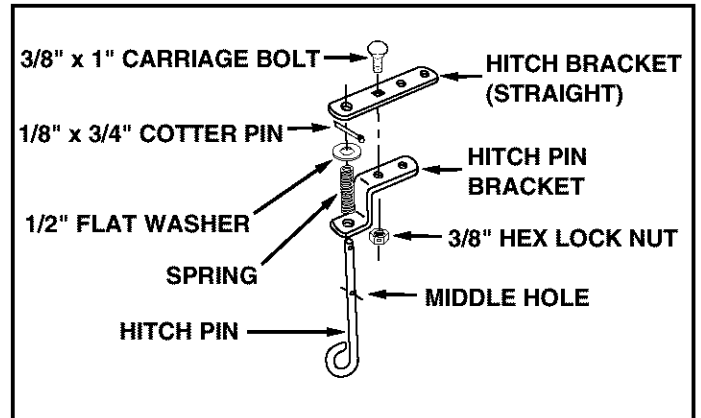

FIGURE 3
- Assemble the hitch pin bracket, the spring and the 1/2" flat washer onto the hitch pin. Secure them onto the hitch pin with a 1/8" x 3/4" cotter pin placed into the middle hole in the hitch pin. Spread ends of cotter pin around hitch pin. See figure 3.
- Assemble the hitch pin bracket to the straight hitch bracket using a 3/8" x 1" carriage bolt and a 3/8" hex lock nut. Align the brackets and **tighten**. See figure 3.